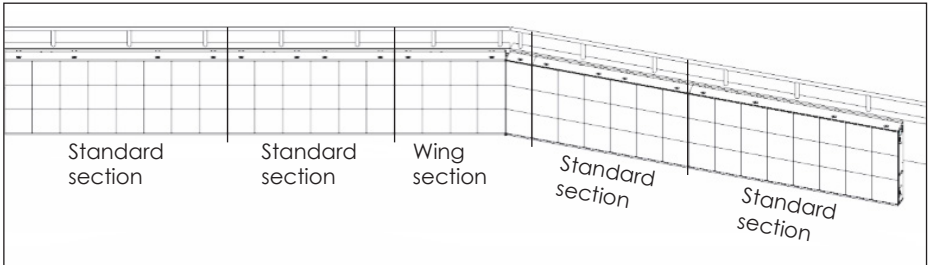

Figure 17: Open Wing Beverage Shroud
1. Open or remove the wing beverage shroud. Refer to **Figure 17**.